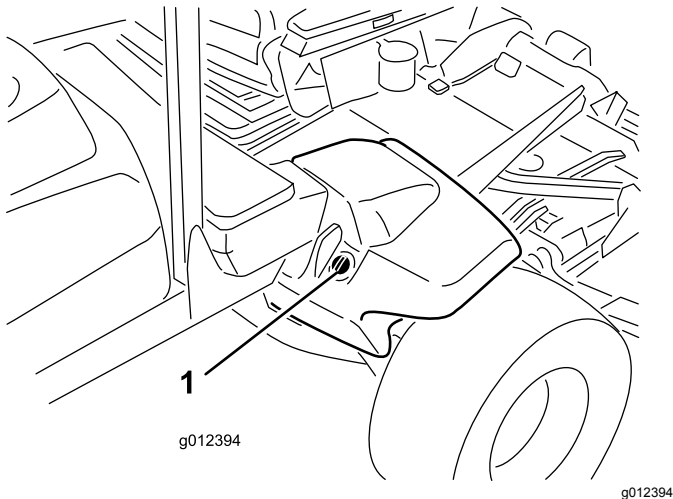

Figure 19
2. Clean the area around the filler neck and cap of the hydraulic tank (Figure 19). Remove the cap from the filler neck.